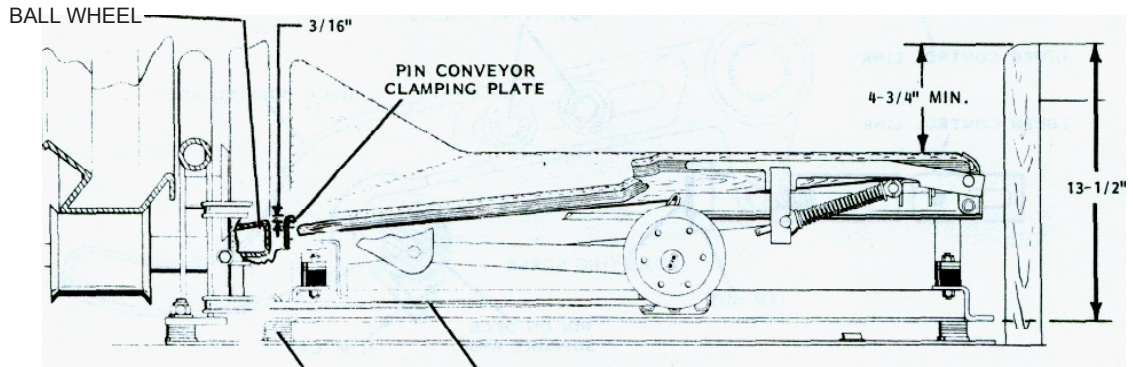

Figure 3
5. If the clearance is less than $1/16''$, check the elevator guide roller adjustment, pit shaker adjustment and elevator frame adjustments. If all the above adjustments are correct, the ball lift rods must be raised to increase the dimension. To raise the ball lift rods, loosen the lock nut on the upper clapper block and turn the adjusting screw in until the $1/16''$ dimension is obtained; tighten the jam nut. Refer to *Figure 3*.